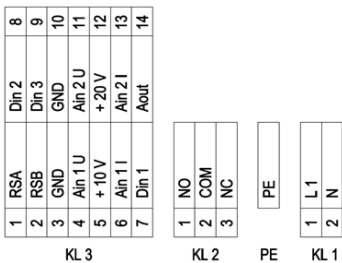
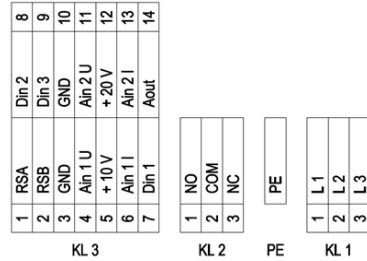

Fig. 40 Electrical connection diagram of a 1-phase EC fan
Fig. 41 Electrical connection diagram of a 3-phase EC fan
8. In case of fans with EC motors, use the scheme shown in Fig. 40 for single-phase and Fig. 41 for three-phase EC fans in order to connect them.